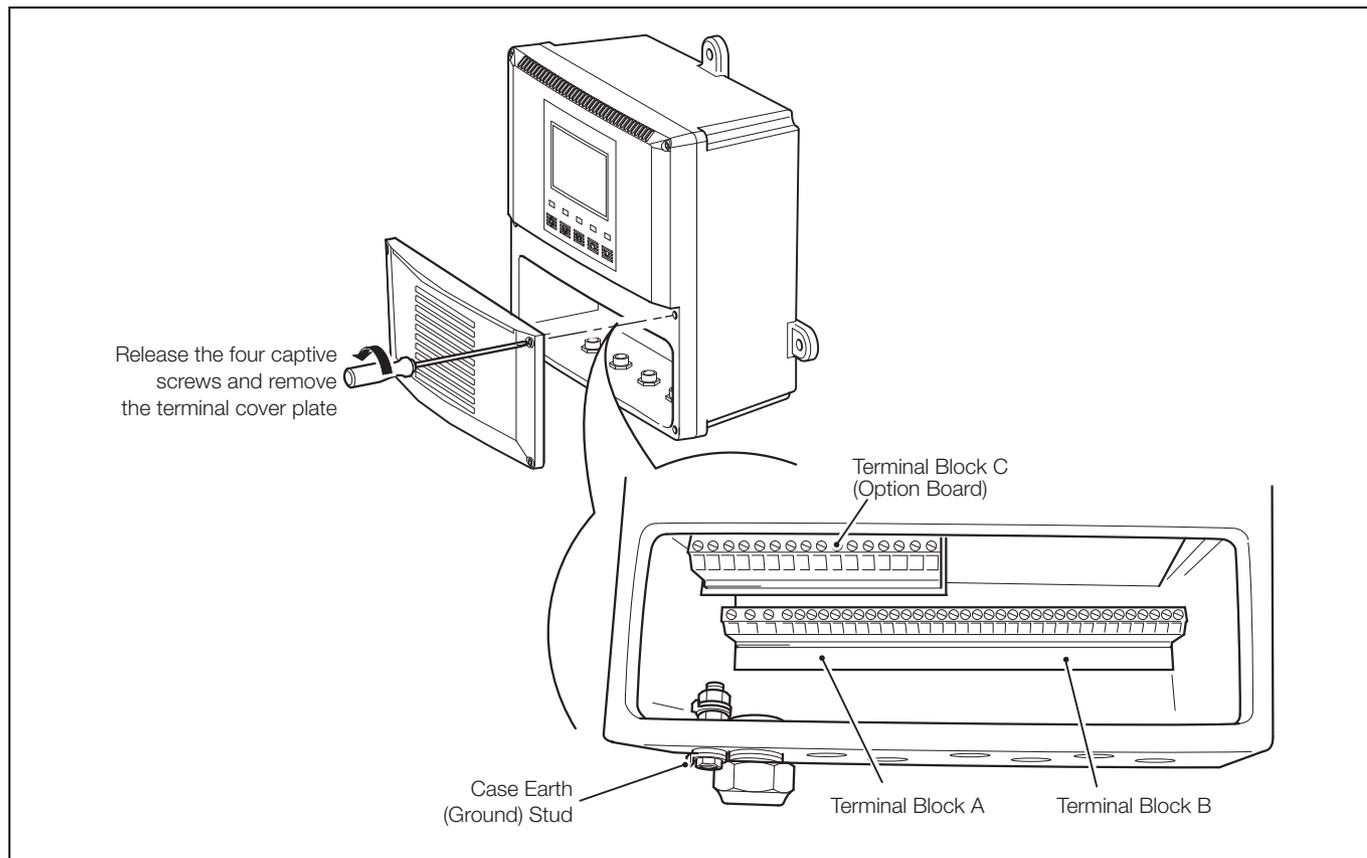
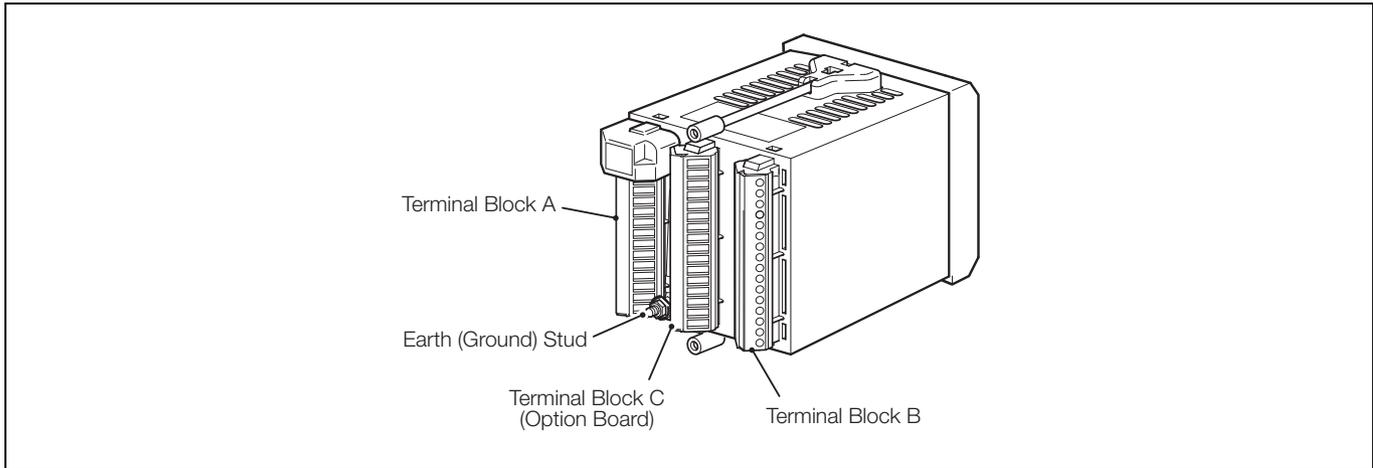

Fig. 6.8 Access to Terminals, Wall-/Pipe-mount Analyzer
Fig. 6.10 Access to Terminals, Panel-mount Analyzers
- The power supply earth (ground) **must** be connected to the earth (ground) stud on the analyzer case – see Fig. 6.8 (wall-/pipe-mount analyzers) or Fig. 6.10 (panel-mount analyzers).
- An earthing (grounding) – stud terminal is fitted to the analyzer case for bus-bar earth (ground) connection – see Fig. 6.8 (wall-/pipe-mount analyzers) or Fig. 6.10 (panel-mount analyzers).
6.4.1 Access to Terminals – Fig. 6.8
- When connecting non-metal conductivity cells or metal conductivity cells that are isolated from earth (ground), e.g. mounted in plastic pipework, link Terminal B14 (and Terminal B6 if dual input analyzer) to the earth (ground) stud on the analyzer case – see Fig. 6.8.
6.5.1 Access to Terminals – Fig. 6.10
- When connecting non-metal conductivity cells or metal conductivity cells that are isolated from earth (ground), e.g. mounted in plastic pipework, link Terminal B14 (and Terminal B6 if dual input analyzer) to the earth (ground) stud on the analyzer case – see Fig. 6.10.